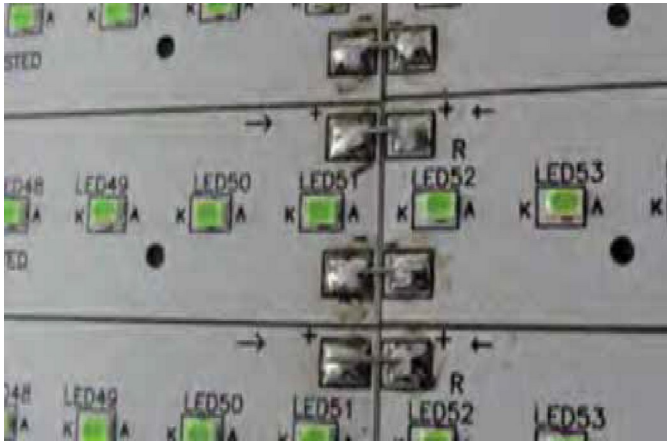

Fig. 6.18: Soldered two light Engines with jumper wire
Step 1. For a length of 4 feet, two light engines with jumper wire have to be soldered as shown in Figure 6.18.